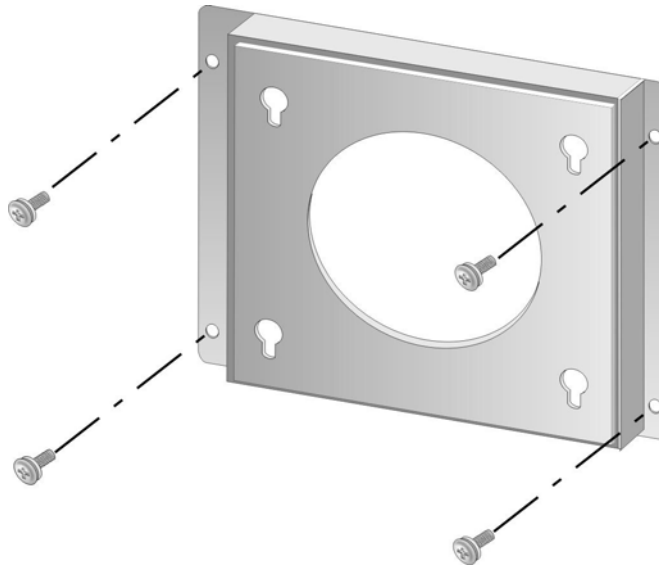

Figure 3-22: Wall-mounting Bracket
- Step 5:** Secure the mounting bracket to the wall by inserting the retention screws into the four pilot holes and tightening them (**Figure 3-22**).